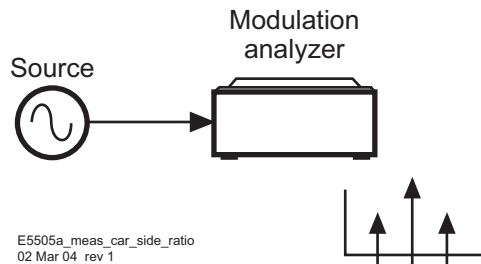

Figure 228 Measuring the carrier-to-sideband ratio
- 3 Measure the carrier-to-sideband ratio of the AM at the AM detector's input with an RF spectrum analyzer or modulation analyzer (Figure 228 on page 305). The source should be adjusted such that the sidebands are between -30 and -60 dB below the carrier with a modulation rate between 10 Hz and 20 MHz.